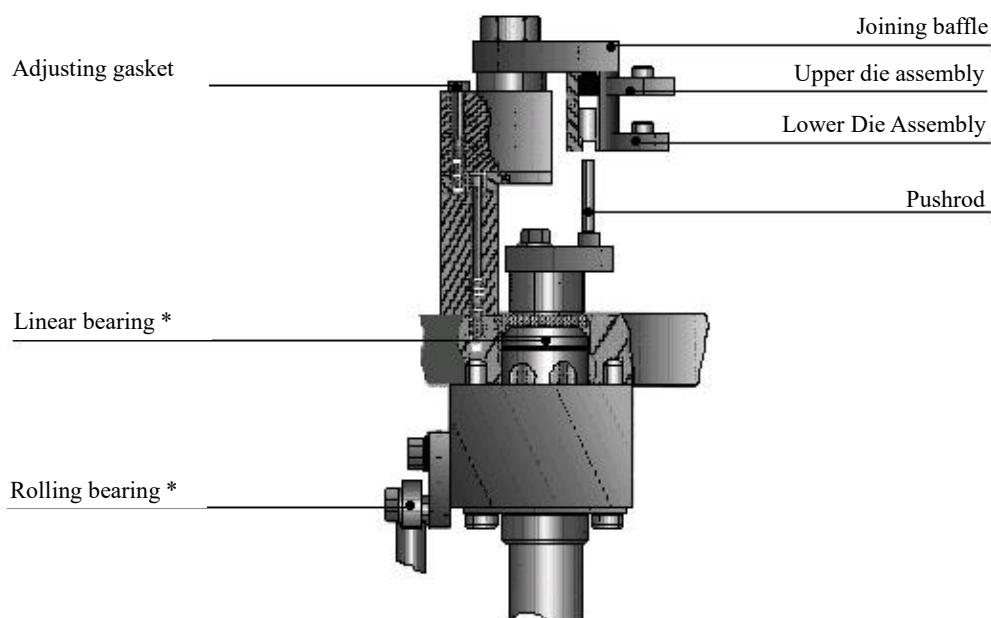

Fig. 25 Mechanism of Capsule Joining
**5.2.10 Adjustment of capsule joining (refer to Fig. 25, 26, 27)**